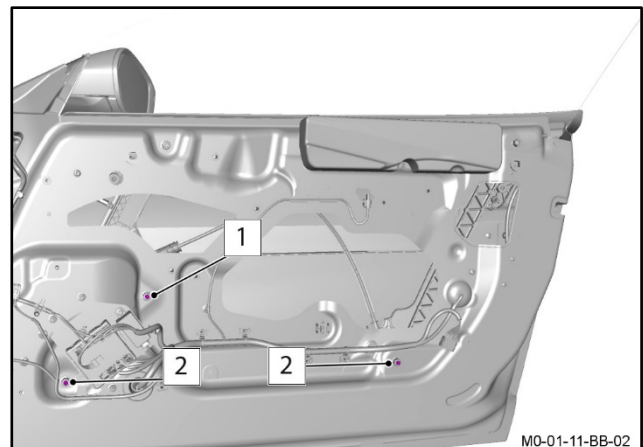

Figure 20
CAUTION: MAKE SURE THAT SCREW (1) IS ADJUSTED BY HALF THE ADJUSTMENT OF SCREW (2) IN THE STEP THAT FOLLOWS (REFER TO FIGURE 20). IF YOU DO NOT, THE REGULATOR RAIL CAN BECOME TWISTED.
34. Adjust the door glass with the two lower regulator screws (2) until it aligns to the primary door weatherstrip correctly (refer to Figure 20).